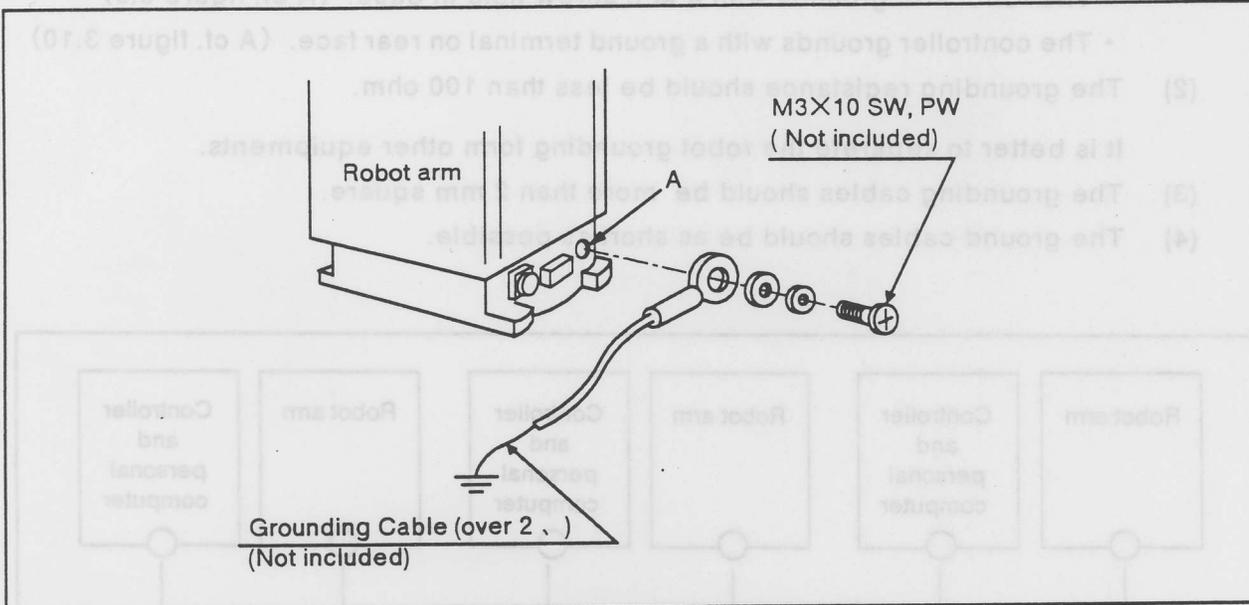

Fig. 3.9 Grounding the robot arm
- The robot arm grounds with a M 3 screw hole in base. (A cf. figure 3.9)
Figure 3.9 shows how to ground the robot arm.